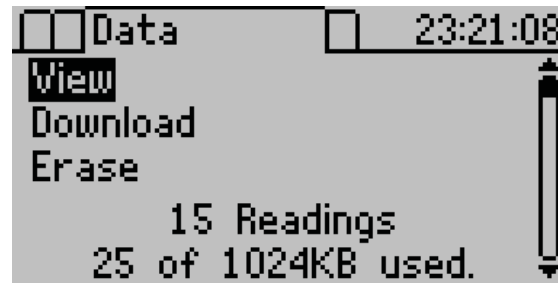

Figure 12 Data screen
1. Press **MENU** to navigate to the Data tab (Figure 12).